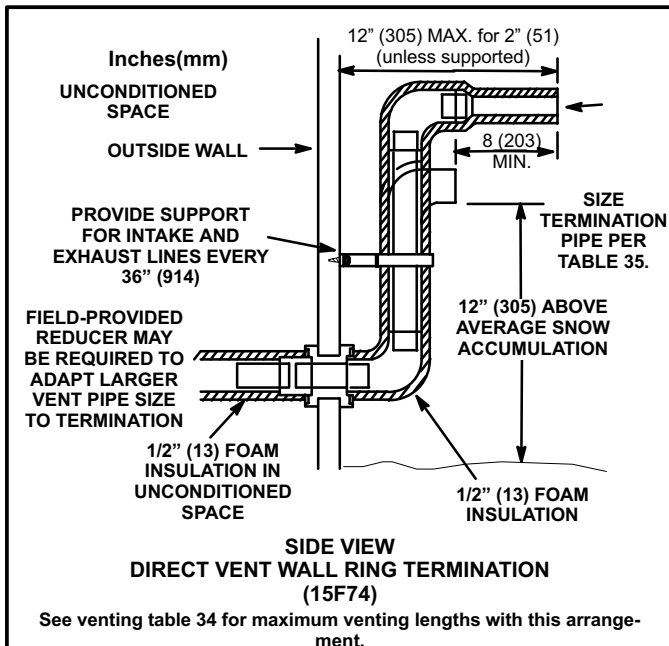
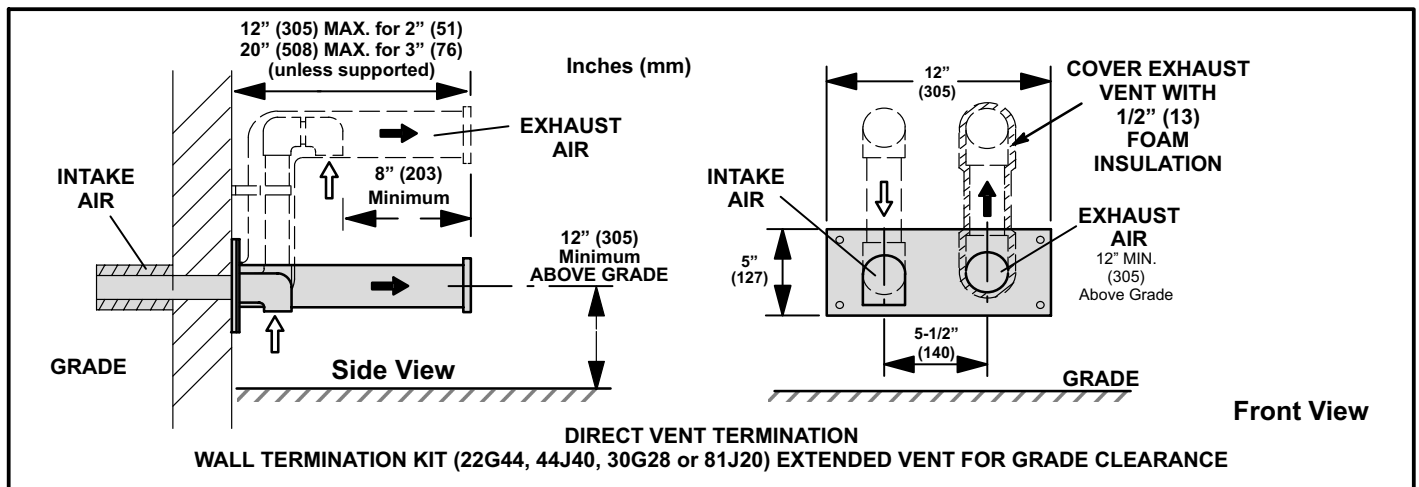

FIGURE 32
FIGURE 35
8. If intake and exhaust piping must be run up a side wall to position above snow accumulation or other obstructions, piping must be supported every 3 ft. (.9m) as shown in figure 20. Refer to figure 32 for proper piping method. In addition, WTK wall termination kit must be extended for use in this application. See figure 35. When exhaust and intake piping must be run up an outside wall, the exhaust piping must be terminated with pipe sized per table 35. The intake piping may be equipped with a 90° elbow turndown. Using turndown will add 5 feet (1.5m) to the equivalent length of the pipe.